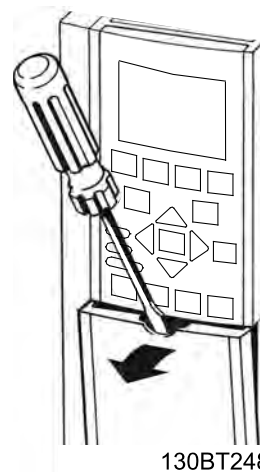

Figure 2.26 Control Wiring Access for IP20/Open chassis enclosures
- Remove access cover plate with a screw driver. See Figure 2.26.